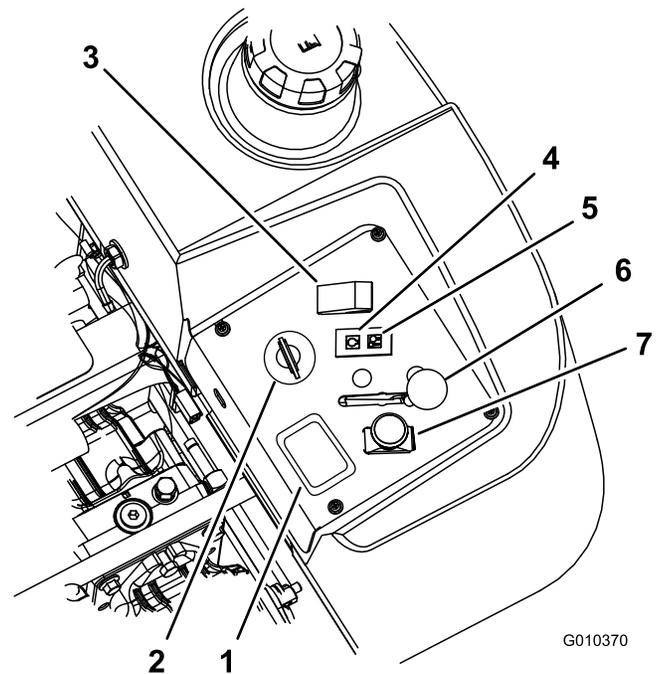

Figure 12
4. Move the PTO (power take-off) switch to the off position (Figure 12).